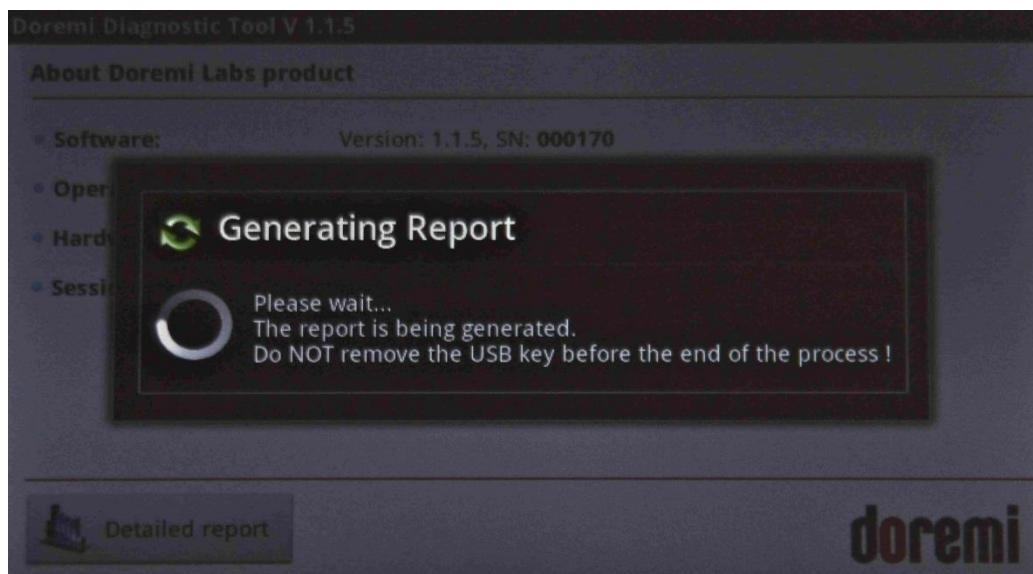

Figure 68: Generating Report
- You will see a confirmation message that the report is being generated (Figure 68).